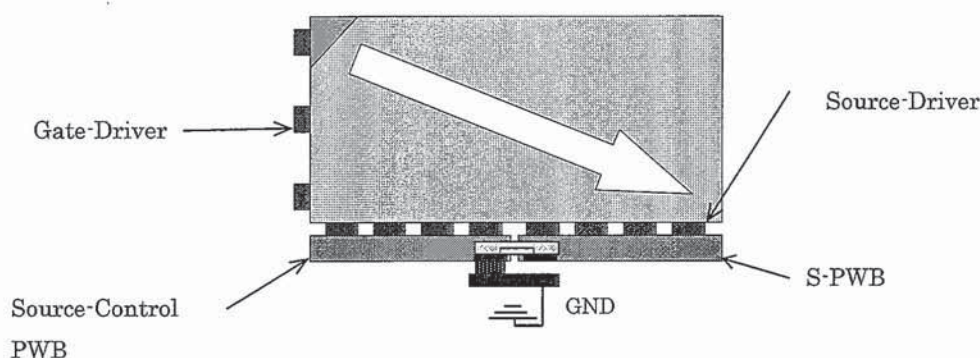

Fig.5 Direction of peeling off
- Peeling direction shown in Fig. 5.